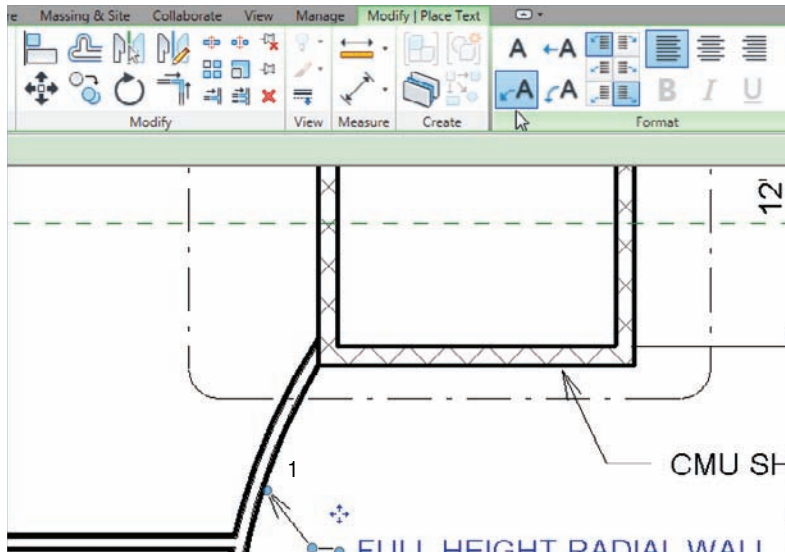

FIGURE 5.51 Adding a piece of leader text
2. On the Format panel, click the Two Segments button, as shown in Figure 5.51.
3. Pick a point near the radial wall, shown as 1 in Figure 5.51.
4. Pick a second point similar to 2, shown in Figure 5.51.